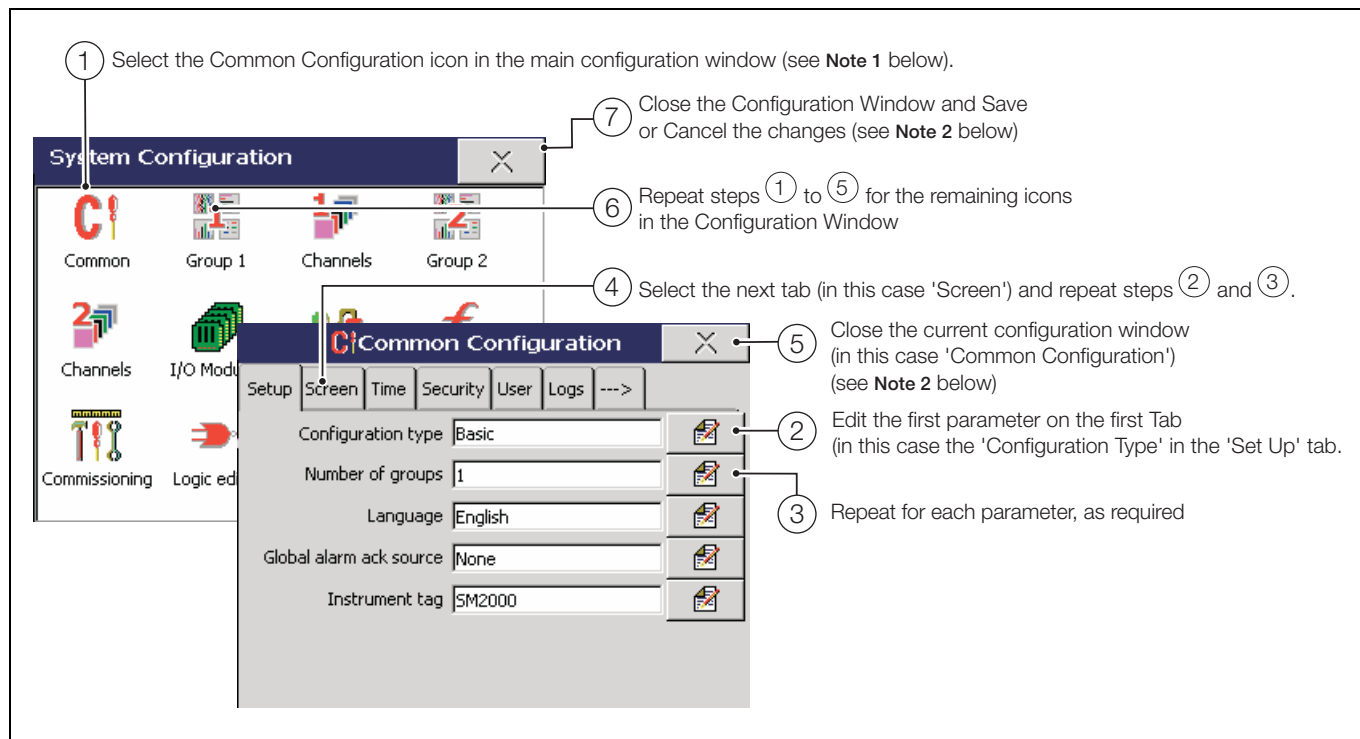

Fig. 4.3 Overview of Configuration Steps
4.2 Overview of Configuration – Fig. 4.3